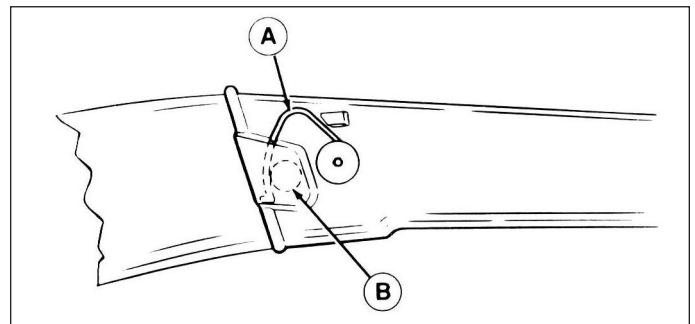

Figure 20.
8. Secure tube by moving wire form (A, figure 20) down over round cup (B) on adapter surface.